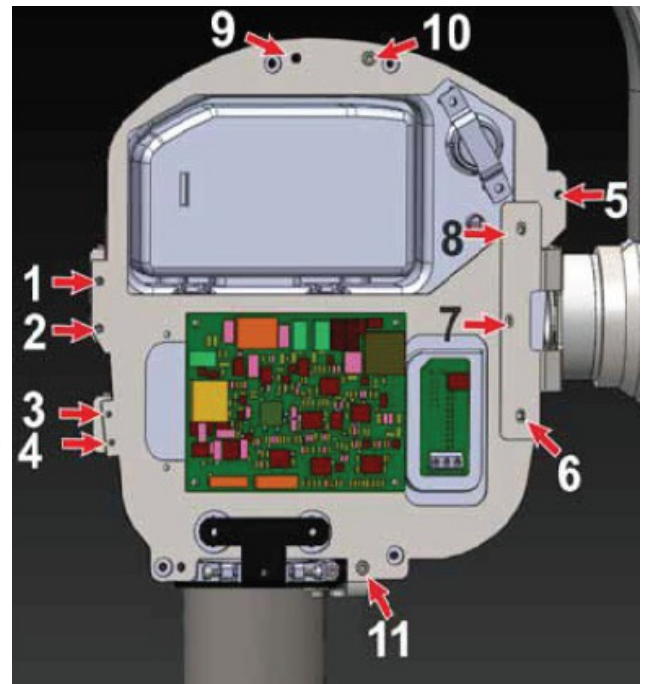

Figure 50
- To remove the HV Tank from the clamp, remove the 5 (M3X6 Hex. socket button head) screws (from 1 to 5 as shown in Figure 50) using 2mm allen key.
- Remove 3 (M3X6 Hex. Soc. Head cap) Screws (From 6 to 8 as shown in Figure 50) on the top of the clamp near Tube head arm using 2.5mm allen key.
- Remove 3 (M3X14 Hex Soc. head cap) screws (from 9 to 11 as shown in Figure 50) along with M3 plain washers & M3 nut using 2.5mm allen key and 5.5mm Nut driver.